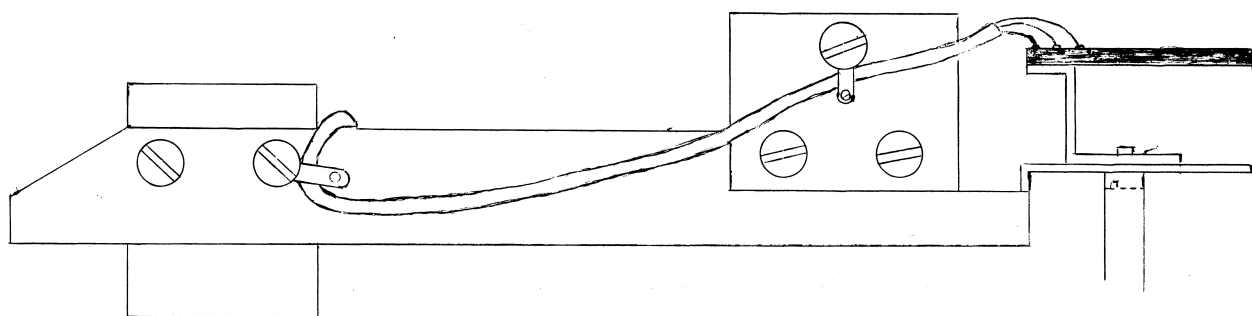

Fig. 1
- g. Secure the motor print with a 2.6x8 screw, next to the flywheel underneath the indicator, Also secure the flat spring of the indicator with this screw, see fig. 1.
- h. Fit a soldering tag under one of the screws of the flywheel bracket and under one of the screws of the motor screening, see Fig. 1.